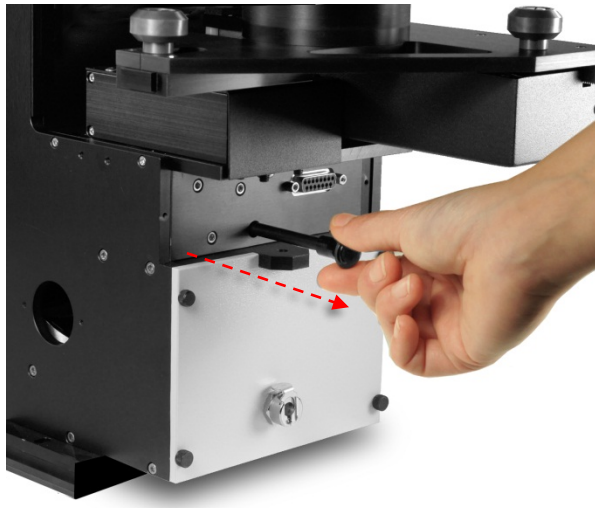

Figure 4. Reflectance/Transmittance Control Knob pulled out for reflectance mode.
The accessory may be configured to perform either a reflectance or transmittance analysis. To choose **reflectance**, pull the Reflectance/Transmittance Control Knob **out** (Figure 4). To choose **transmittance**, push the Reflectance/Transmittance Control Knob **in** (Figure 5).
2. Pull the Reflectance/Transmittance Control Knob **out** all the way (see Figure 4, Page 5).